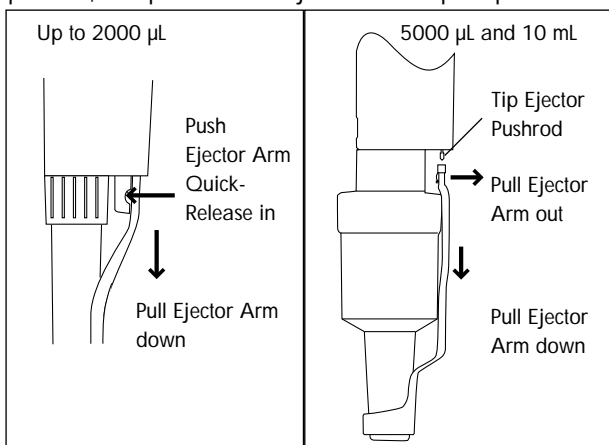

Figure 8 Removing the Tip Ejector Arm
1. Refer to Figure 8 to remove the tip ejector arm.